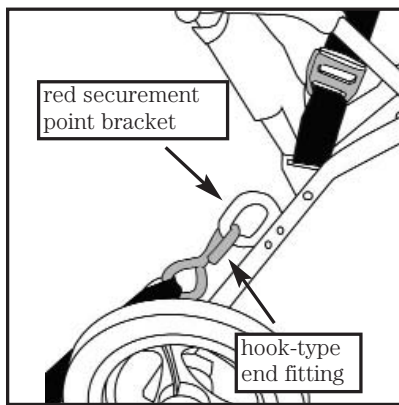
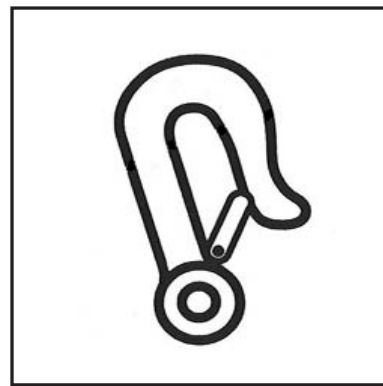
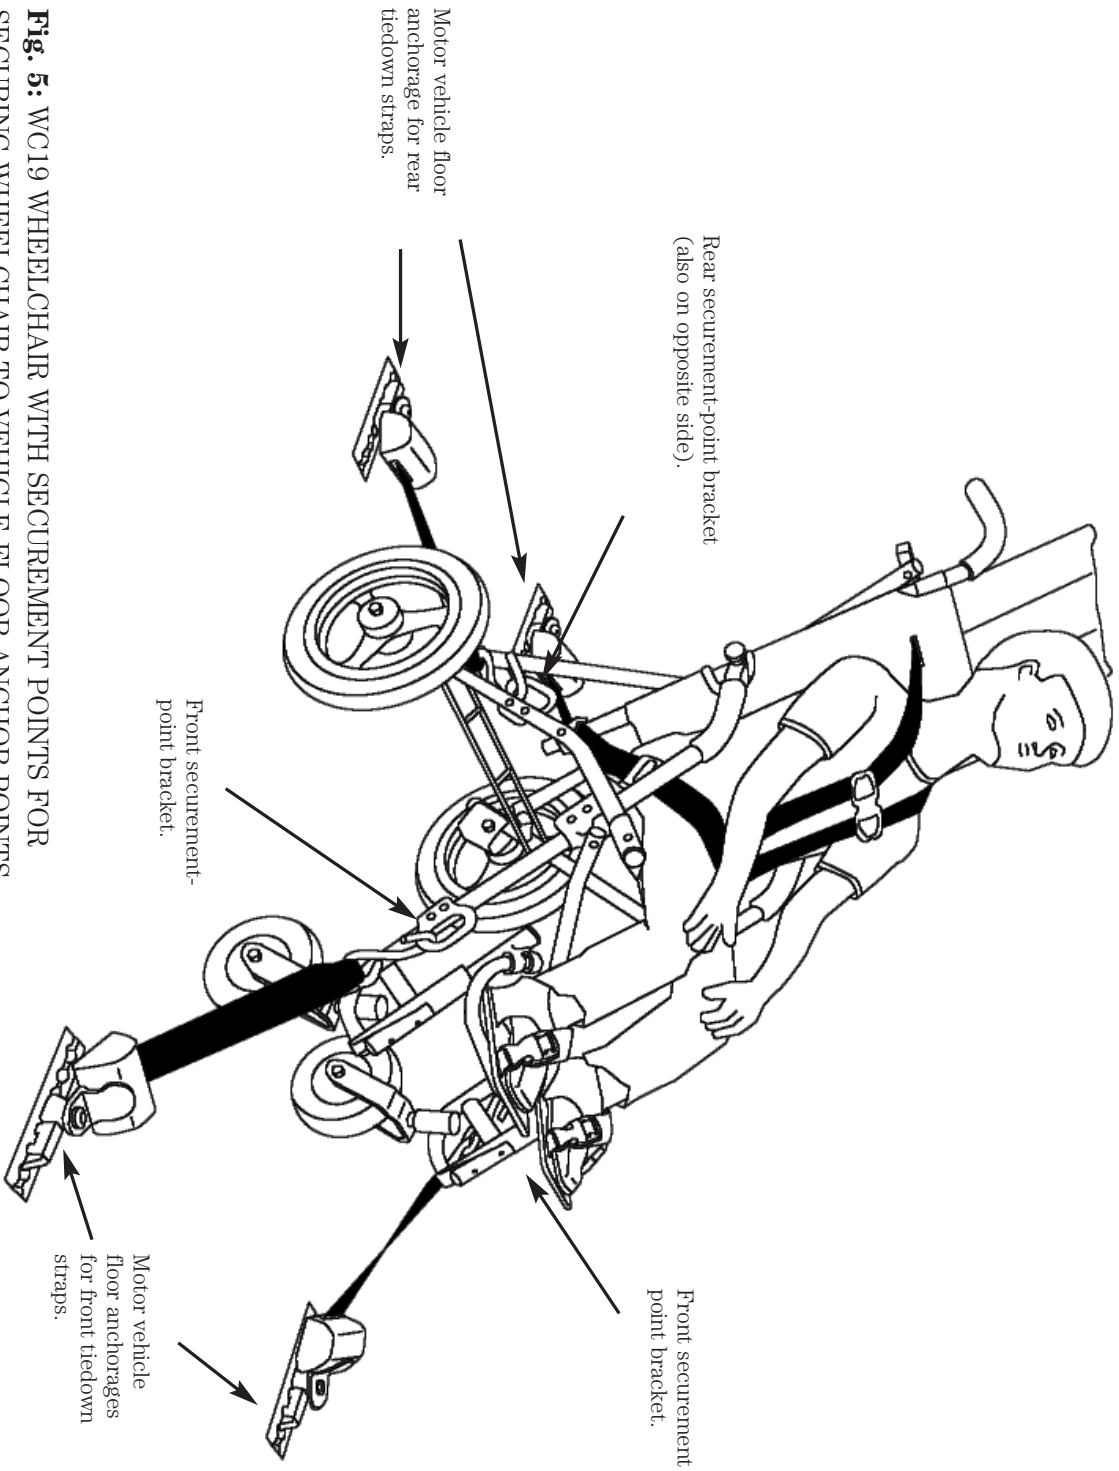

Fig. 3
Fig. 4
Fig. 5: WC19 WHEELCHAIR WITH SECUREMENT POINTS FOR SECURING WHEELCHAIR TO VEHICLE FLOOR ANCHOR POINTS.
- wheelchairs provide four easily accessible hook- or strap-type attachment points for strap-type tiedowns with hook- or strap-type end fittings to facilitate wheelchair securement in motor vehicles (see Fig. 3) and
Attach tiedown straps to securement points (red brackets) located on the wheelchair's legs in accordance with the WTORS manufacturer's instructions. Securement points are identified by the symbol in **Fig. 4**, and their location on the wheelchair illustrated in **Fig. 5**. **You must use all four tiedown straps when securing your Convaid wheelchair in a motor vehicle.**
ILLUSTRATION OF SECUREMENT POINT BRACKET ON WHEELCHAIR FRAME (**FIG. 3**) AND SYMBOL USED TO DESIGNATE WHEELCHAIR SECUREMENT POINTS (**FIG. 4**).
Your Convaid transit wheelchair was dynamically crash tested in a forward-facing configuration using an appropriately sized crash-test dummy restrained by an upper-/lower-torso five-point harness. To reduce the possibility of head and chest injuries resulting from contact with vehicle components, you must use the five-point harness. (See Figs. 5, 7 & 8)